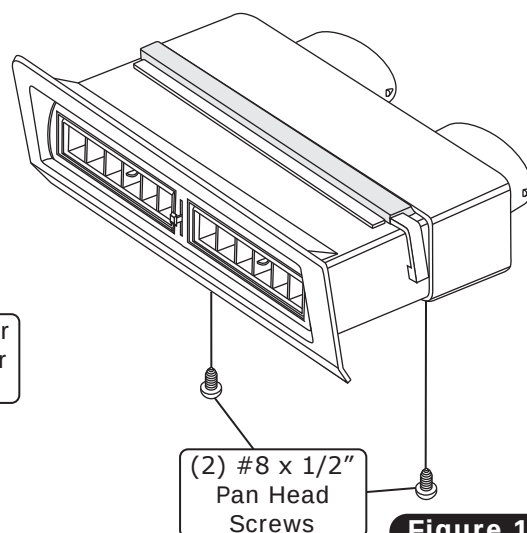

Figure 1a
3. Using the (2) mounting holes on the bottom side of the duct hose adapter as a guide, drill (2) 1/8" holes in the louver assembly. Secure duct hose adapter to louver assembly using (2) #8 x 1/2" pan head screws (See Figure 1a, below).
2. Once the hose adapters are installed, drill (2) 7/64" holes in the OEM under dash louver assemblies as shown in Figure 1a, below.